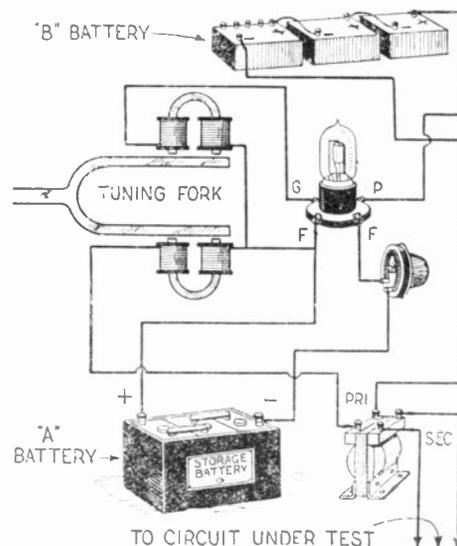

Fig. 56. A system for maintaining a constant frequency, using a tuning fork and a vacuum tube, is shown above.
(56) Q. 1. J. K. Windell, Charleston, W. Va., asks whether or not it is possible to use the characteristics of a vacuum tube to maintain a tuning fork in vibration at a constant frequency.
A. 1. This is entirely possible and the diagram given in Fig. 56 shows the connections for this work. This system is patented and is used extensively in electrical testing work. The tuning fork is driven by means of two electromagnets, A and B, which may be taken from ordinary 75-ohm receivers in order to set up this circuit for experimental use. This circuit is not self-starting, but the tuning fork must be vibrated first in order to set up currents in the vacuum tube circuit. By doing this, the movement of the upper prong induces a current in the grid coil. This, of course, starts up a momentary plate current which causes the magnet in the plate circuit to attract the other prong. This action takes place many times per second, the exact number depending upon the natural frequency of the tuning fork. In the circuit shown, an ordinary audio-frequency transformer is employed so that instruments under test or circuits to be tested can be connected into the circuit without disturbing the constants of the vacuum tube and tuning fork circuit itself.